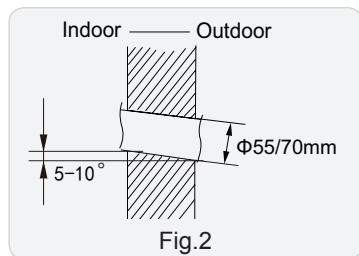

Fig.2
(2) Open a piping hole with the diameter of $\Phi 55\text{mm}$ or $\Phi 70\text{mm}$ on the selected outlet pipe position. In order to drain smoothly, slant the piping hole on the wall slightly downward to the outdoor side with the gradient of 5-10°.(As show in Fig.2)